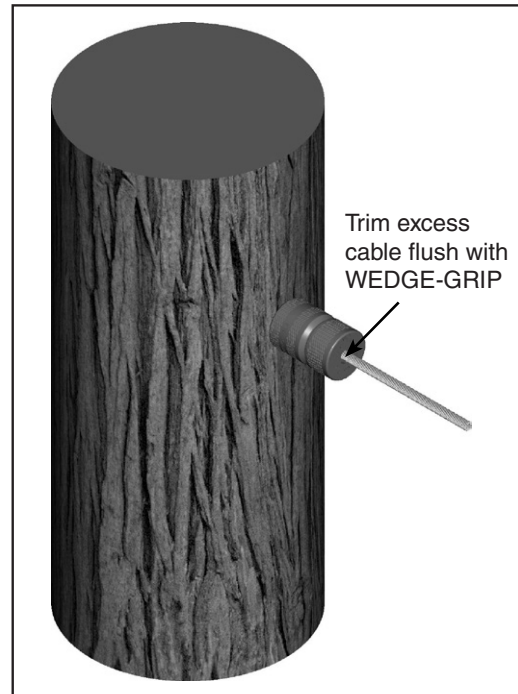

FIGURE 5
- 6.00** Position WEDGE-GRIP Dead-end against the tree and pull on cable to tension as required (Figure 5).
NOTE: The PREFORMED™ Safety Guy Wire Dispenser, Catalog No. SGD-0700, is a perfect accessory when carrying and working with extra high strength strand (Figure 5).